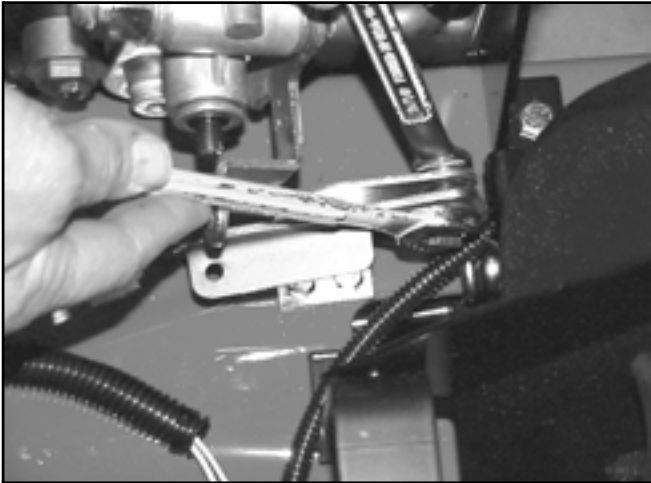

**Figure 70**
6. Unplug and remove the park brake switch from the lower bellcrank bracket (Figure 70).